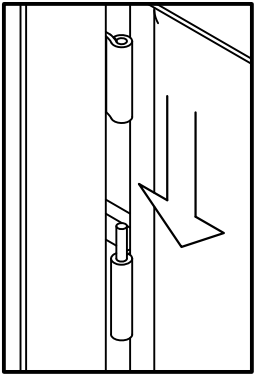

Figure 2
Attach Doors (W) and (X) by sliding the Doors lift hinges into the Side Panels lift hinges. (See figure 2)